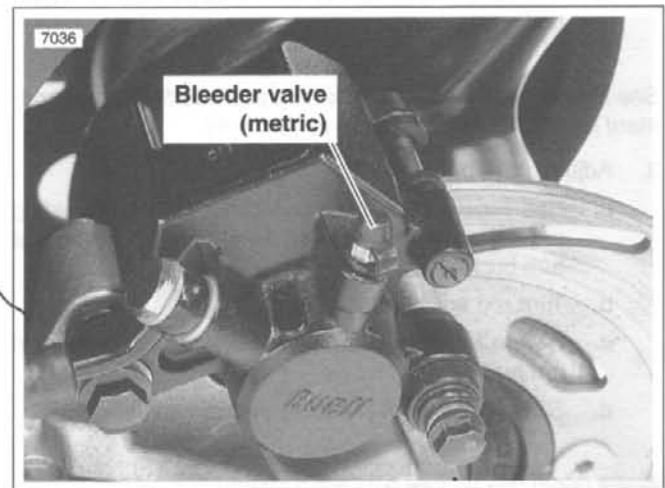

Figure 1-18. Rear Brake Bleeder Valve
- b. Rear brake bleeder valve-see Figure 1-18.